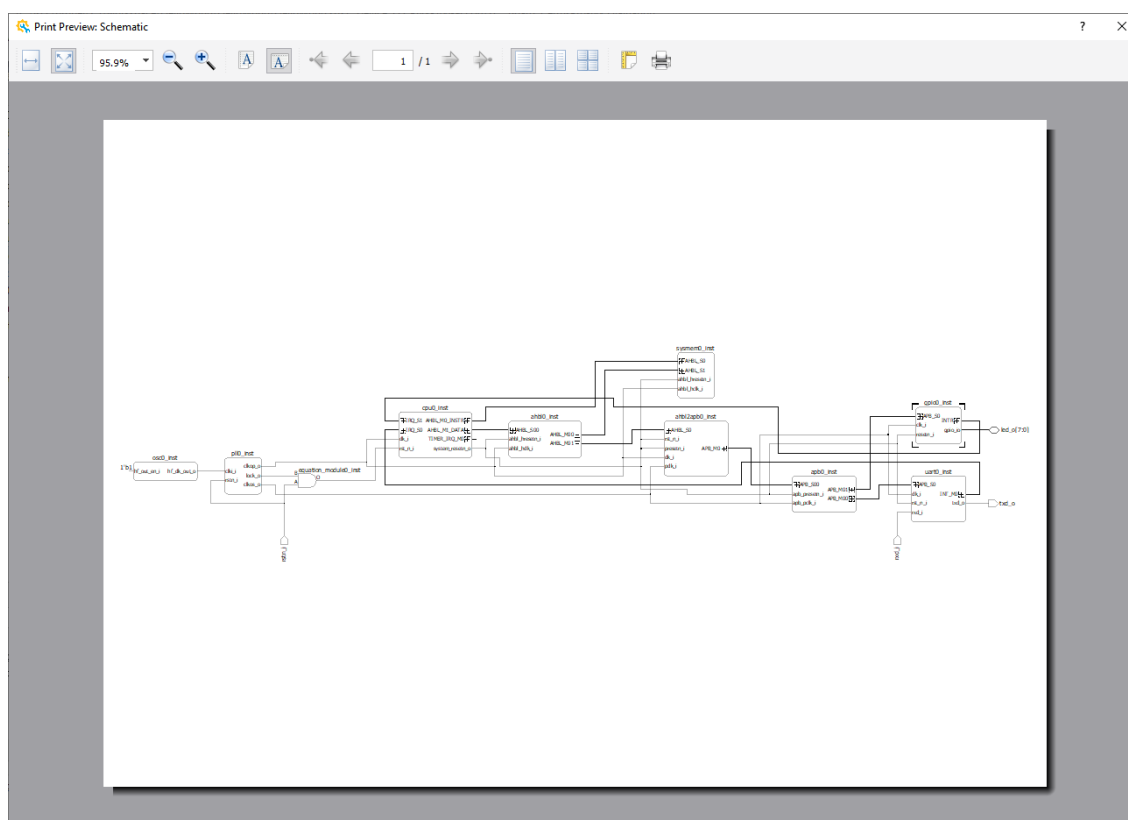

Figure 2.78. Print Preview
1. Choose **File > Print Preview**. The Print Preview window (Figure 2.78) opens.